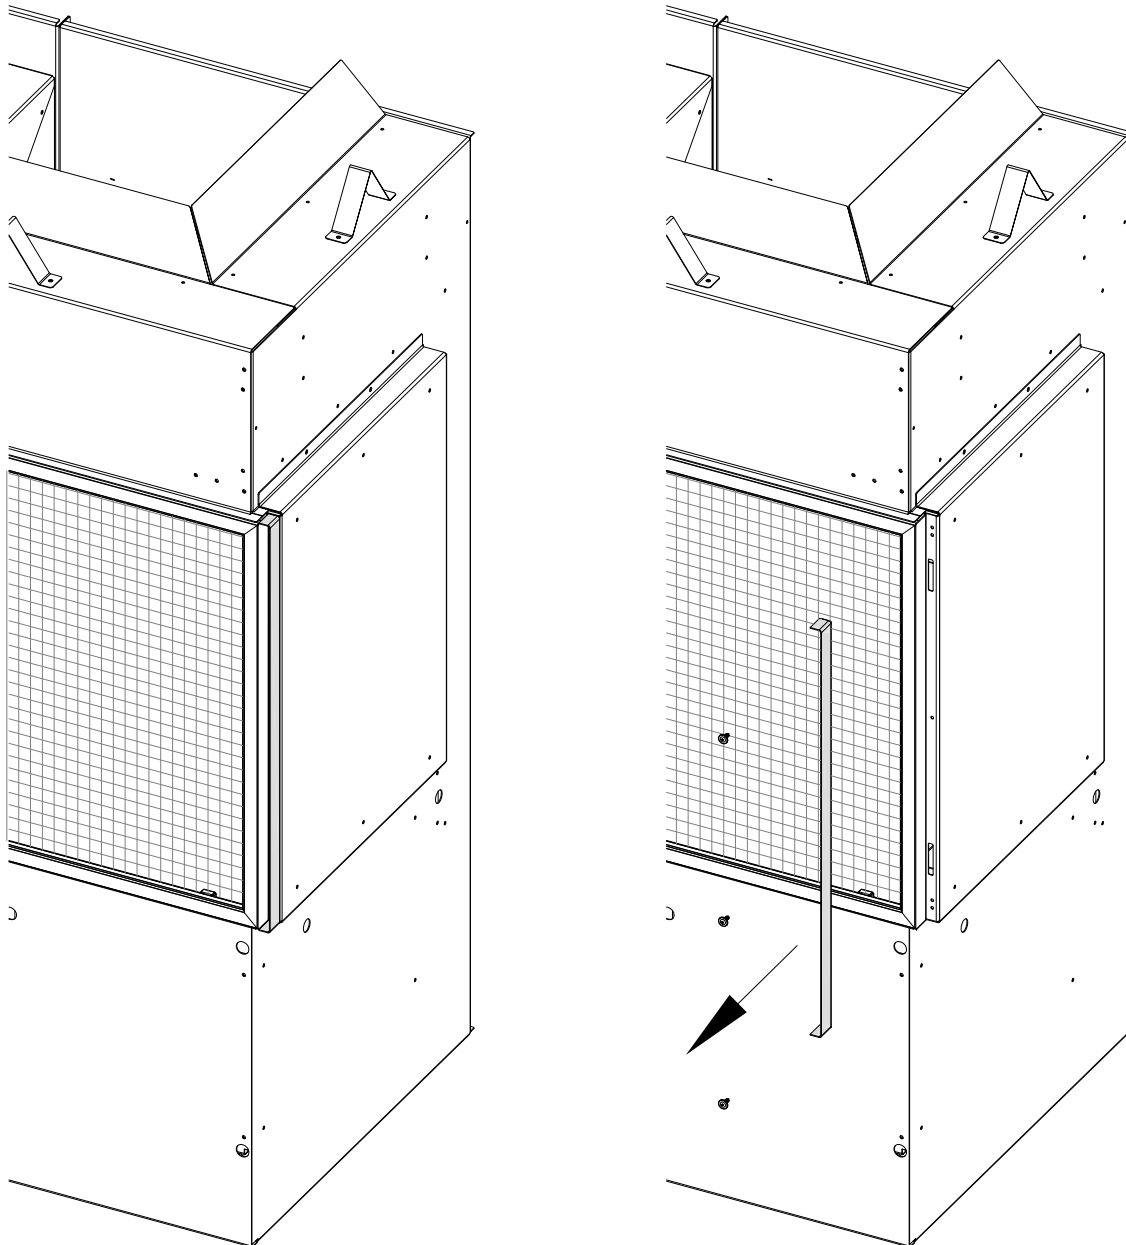

Figure 4.7 - Side Finishing Edge Extension - Rectangle Surround
- See Figure 4.7, Non-Combustible Finishing Zone for the minimum requirement of noncombustible finishing material.